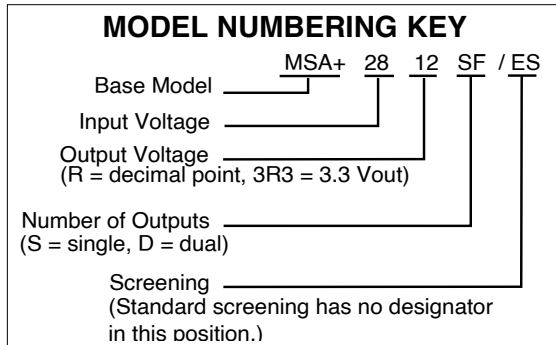

FIGURE 6: MSA+ MODEL NUMBERING KEY
- See Figure 6 above for an example of a model number.